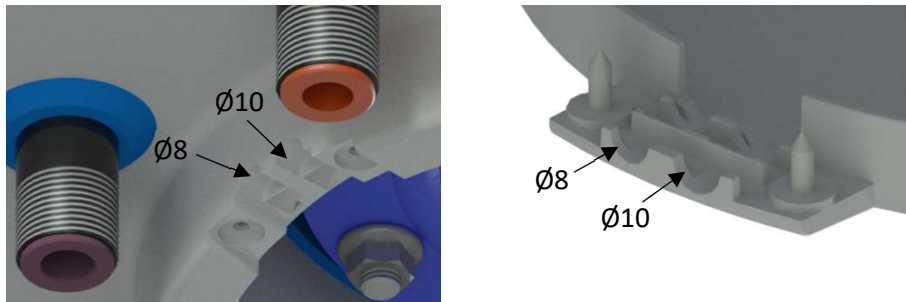
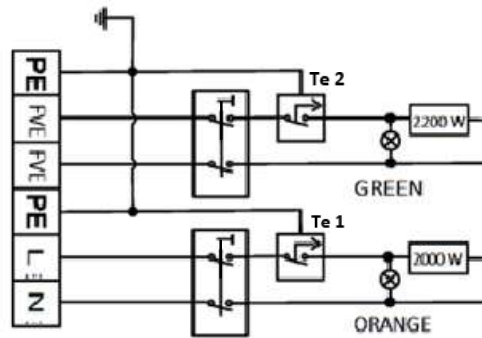
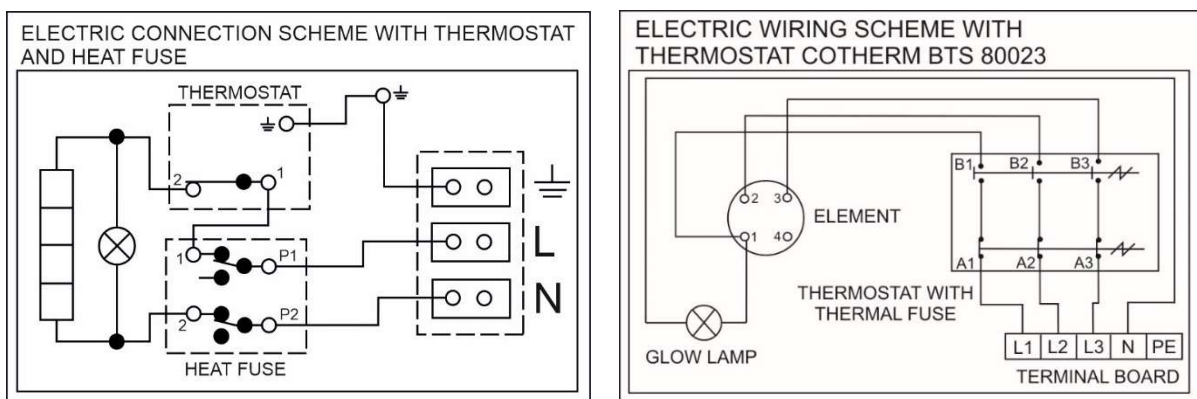

Figure 9
Figure 10
Figure 11
Perform the connection according to the scheme. Factory connection must not be changed! (Figure 10, Figure 11) the electric wiring casing remove the partition corresponding with the input wire diameter of  $\varnothing 8$  or  $\varnothing 10$  (Figure 9). The degree of protection of electric parts of the heater is IP 44. Power input of electric element is 2200 W and 2000 W for heater OKF /1m2 2/2 kW. Power input of electric element is 2000 W and 4000 W for heater OKF /1m2 2/4 kW.
- The electric wiring scheme is attached to the water heater on the side of the electric installation guard (Figure 10, Figure 11).